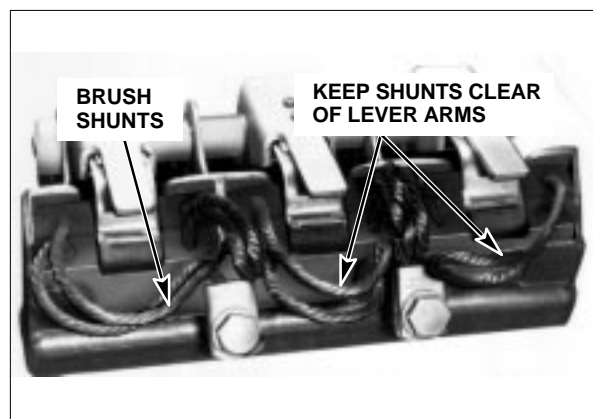

FIG. 6. CORRECT POSITION OF BRUSH SHUNTS. E-22568.
3. Check brush shunts to be sure they are not twisted or out of position, Fig. 6. Make sure all
7. Bolt the brush shunt terminals to the brushholder(s). Arrange the brush shunt strands so they clear the pressure fingers, Fig. 6, and tighten the terminal screw(s). Make sure brush shunts are not positioned under the pressure fingers. Check and tighten all brushholder cable connections.